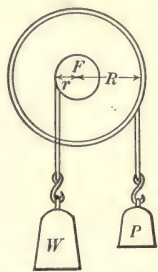

FIG. 20.—Wheel and axle.
wheel, as shown in figure 20. In calculating the effort (P) needed to balance a given resistance (W) we have merely to take moments about the center (F) of the wheel and axle. If we call the radius of the wheel R and that of the axle r , then,
For example, in the wheel and axle (see Fig. 20, section 26) the *output* is equal to the weight times the distance it is lifted, and the *input* is equal to the effort times the distance through which it is exerted. For convenience, suppose the wheel makes just one turn. Then the distance the weight is lifted is equal to the circumference of the axle, $2\pi r$, and the distance through which the effort is exerted, is the circumference of the wheel, $2\pi R$. The *input* is $P \times 2\pi R$, and the *output* is $W \times 2\pi r$. Therefore, by the principle of work,